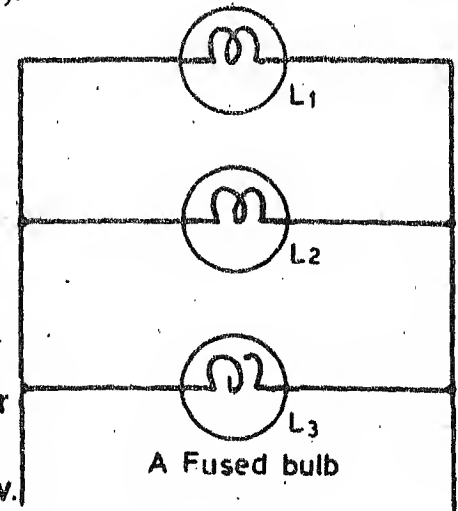

Fig.10.8 Lamp L_1 will not glow. However L_2 and L_3 will continue to glow.
- (ii) If any lamp goes out of order the other lamp will continue to glow. Therefore independent control is possible. This is the reason for using the parallel connection in domestic wiring. All the appliances that are used in our homes are connected in parallel (See Fig. 10.8).